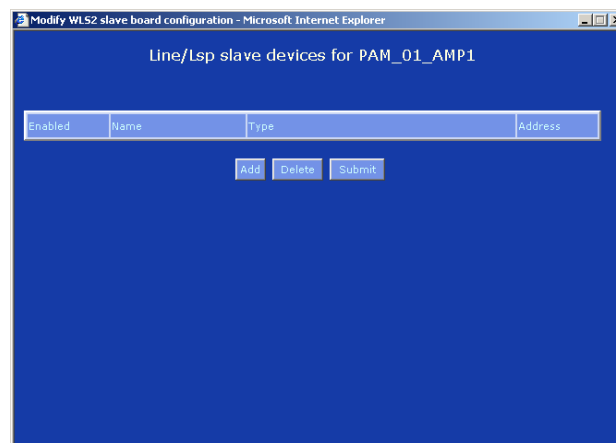

figure 34.17: Add slave device, step 1
- 1 Click the *Configure slave devices* button in the *Audio Outputs* category of the applicable power amplifier (see section 34.3.4). A screen similar to the one figure 34.17 appears.